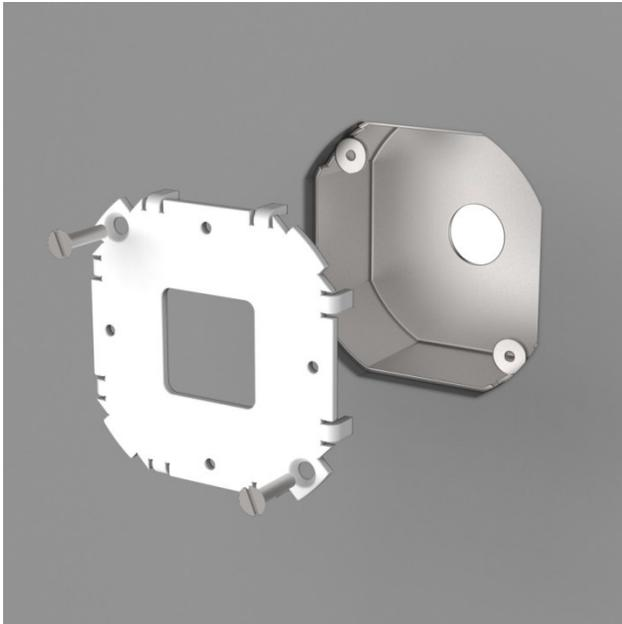

Figure 1
- Fixture must be hung on a 3½" octagonal electrical box. (Figure 1)